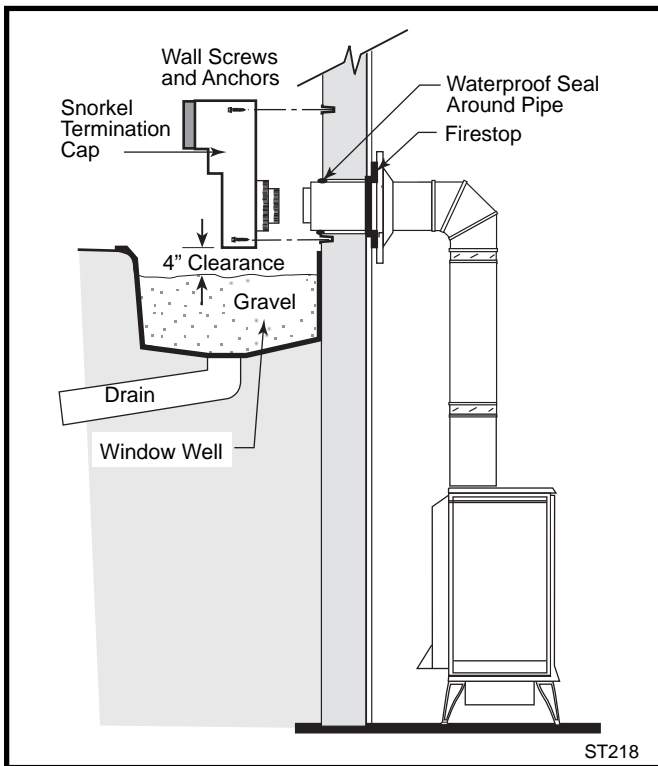

Fig. 28 Snorkel kit installation.
Install Snorkel Kit #7FSDVSKS when it is not possible to meet the required vent termination clearances of 12" (305mm) above grade level. The snorkel kit will allow installation depth of down to 7" (178mm) below grade level. The seven inches is measured from the center of the horizontal vent pipe as it penetrates the wall. **If the venting system is installed below grade, a window well must be installed with adequate and proper drainage.** (Fig. 28)
2. Remove soil to a depth of approximately 16" (400mm) below the base of the snorkel. Install a window well (not supplied). Refill the hole with 12" (305mm) of coarse gravel and maintain a clearance of at least 4" (100mm) below the snorkel. (Fig. 28)